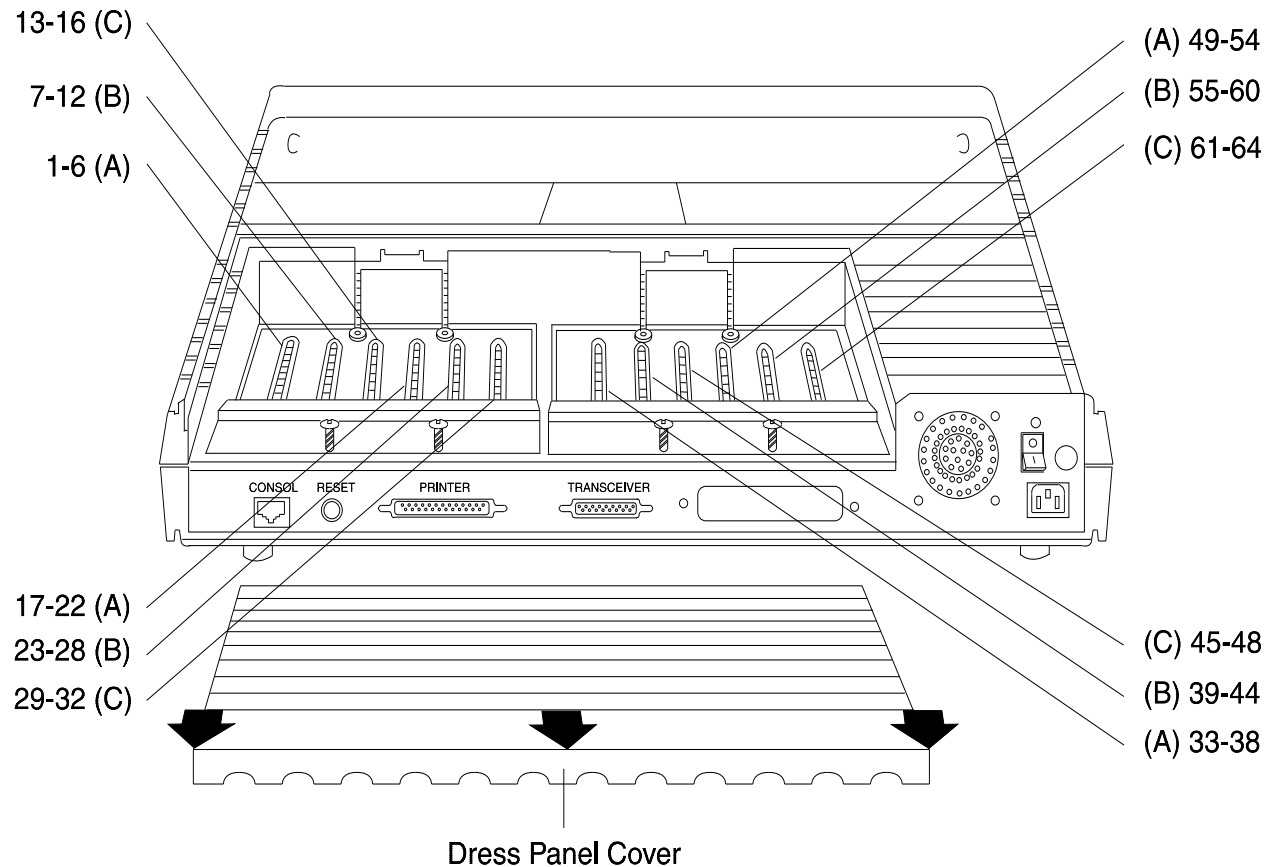

Figure 9-3: Network Terminal Server — PBX-Champ Connectors and Port Definitions
- For 64-port only, check the three cables (A,B, and C) that run from the NTS to each NTS patch panel (see Figure 9-3). Check to see that the cables are correctly seated at each end.